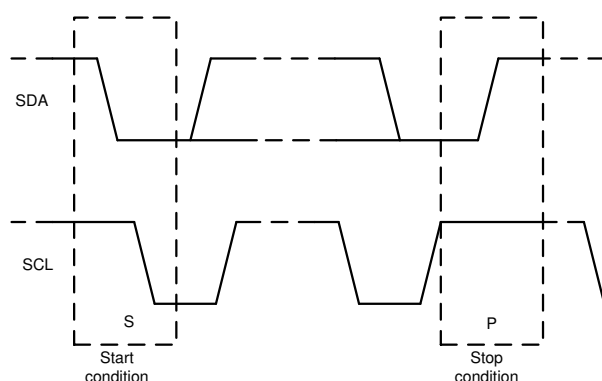

Figure 7-10. Start and Stop Conditions
1. The controller initiates data transfer by generating a start condition. The start condition is when a high-to-low transition occurs on the SDA line while SCL is high, as shown in Figure 7-10. All I²C-compatible devices recognize a start condition.
4. To signal the end of the data transfer, the controller generates a stop condition by pulling the SDA line from low-to-high while the SCL line is high, as shown in Figure 7-10. This action releases the bus and stops the communication link with the addressed target. All I²C-compatible devices recognize the stop condition. Upon receipt of a stop condition, the bus is released, and all target devices then wait for a start condition followed by a matching address.